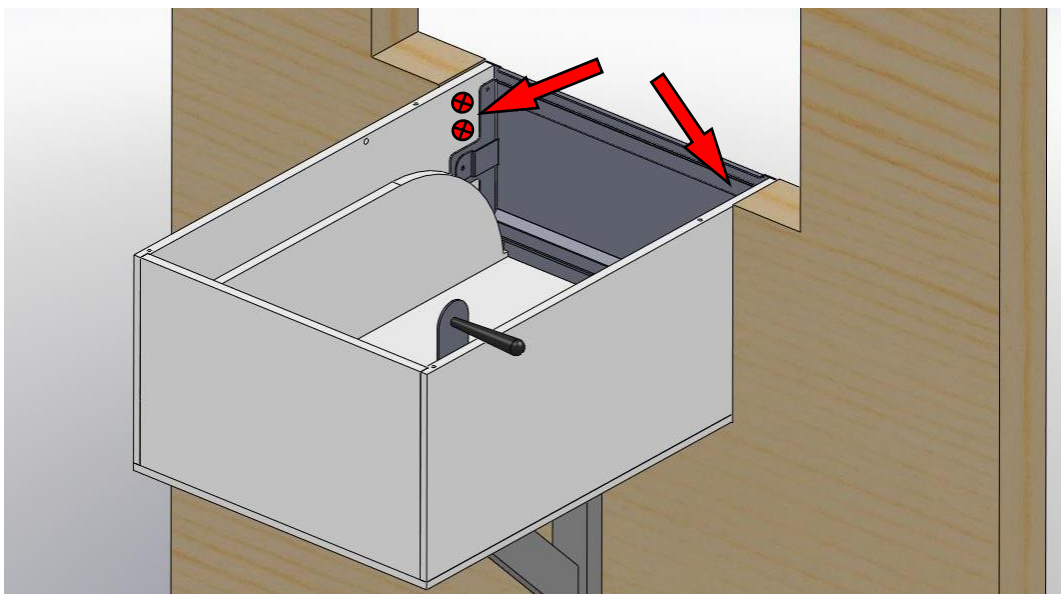

Figure 9. Mark fastening points for mounting the drawer assembly to the frame of the wall cut-out
- C. Remove the cover plate on top of the drawer assembly to provide access to the drawer interior (**Figure 9**). Mark two fastening points on each side of the drawer as shown in **Figure 9**.